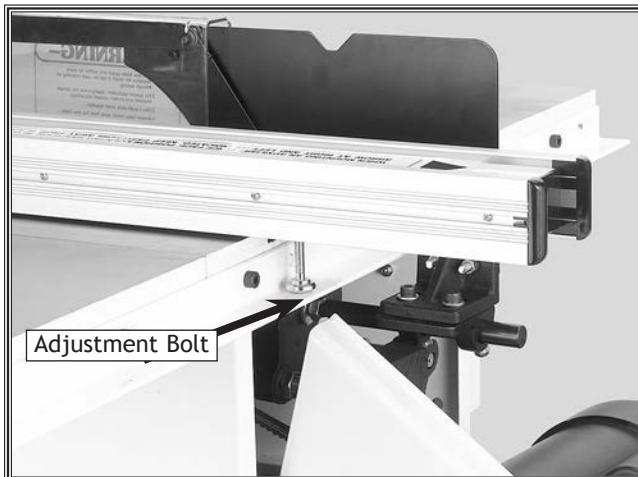

Figure 5. Adjustment bolt.
3. Check to see that the fence clears the table surface throughout its range of travel, and increase or decrease the height between the fence and table by adjusting the bolt shown in **Figure 5**.